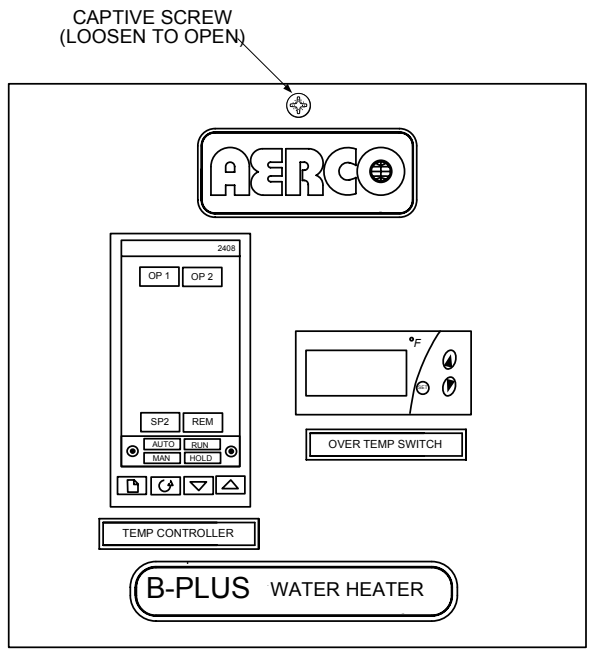
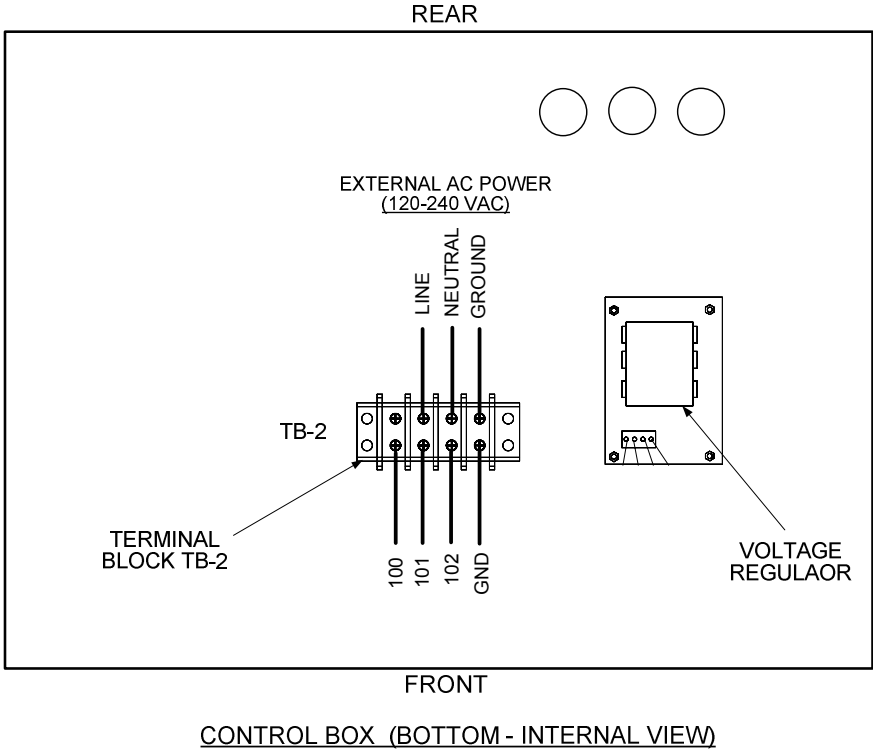

Figure 4-17. Recessed Panel Behind Control Box Door
Figure 4-18. ECS Control Box AC Power Connections
4. Swing open the door and loosen the captive Phillips head screw at the top of the recessed panel (Figure 4-17). Swing down the panel to access terminal block TB-2 (Figure 4-18)
6. Connect the Line, Neutral and Ground leads to the TB-2 terminals shown in Figure 4-18.